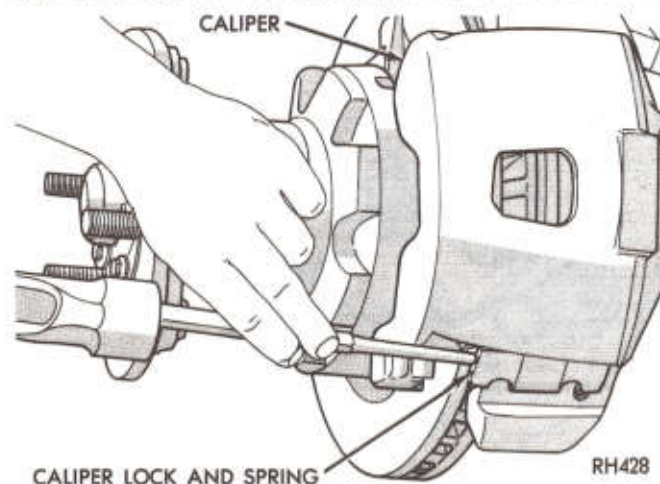

Fig. 6—Installing Caliper Lock and Spring
(7) Using Tool DD-1241-JD and Tool C-3952, tighten to 50 ft. lbs. (67.7 N·m) to seat bearings, back off lock nut and retighten to 30 to 40 ft. lbs. (40.6 to 54.2 N·m) while rotating hub and rotor. Back nut off 135° to 150°. Assemble lockring and outer locknut. Tighten lock nut to 65 ft. lbs. (88.1 N·m) minimum. Bend one tang of lockring over inner locknut and one tang of lockring over outer locknut. Final bearing end play to be .001 to .010 inch (.025 to .254mm).
(8) Install new gasket on hub. Install drive flange, lockwashers and nuts. Tighten to 30 to 40 ft. lbs. (40.6 to 54.2 N·m). Using Tool C-4020 install snapping. Install hub cap.
(9) Carefully position caliper onto adapter. Position adapter lock and spring between caliper and adapter and tap into position (Fig. 6). Install allen screw and tighten to 15 ft. lbs. (20 N·m).
(10) Install wheel and tire assembly. Tighten nuts to specified torque (See Group 22).
(11) Lubricate at all fittings. Remove jack stands, lower vehicle, remove block from brake pedal and test vehicle operation.